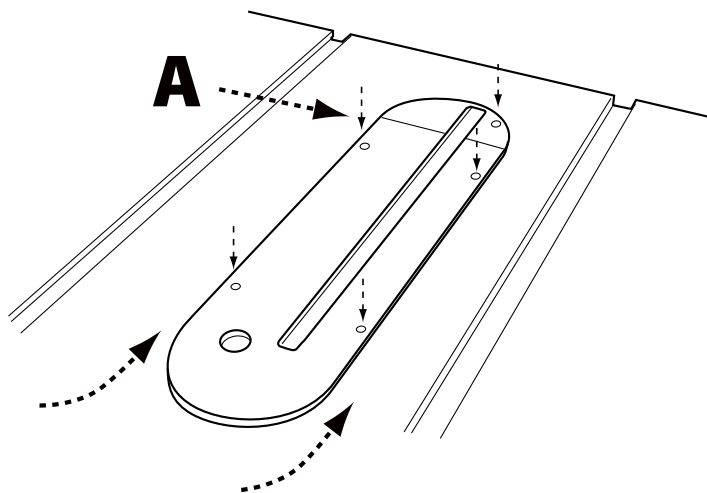

FIGURE 11
1. To install throat plate, lower blade below tabletop, then carefully feed the throat plate, with plate end first, from the front of the table to the rear, keeping the blade centered within the slot on the throat plate. See Figure 11. The plate should rest within the cavity in the tabletop on top of 5 flat head screws.
3. If the throat is not flush with the tabletop, adjust the height of the throat plate using the five set screws (A) below the throat plate.